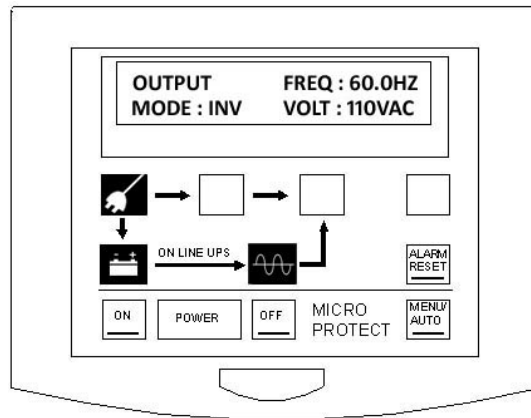

Figure 19 : LCD and Indicators - 3
5. Press 「 8. On 」 button (see Figure 5) to turn ON the UPS. The indicators will light and LCD will show as Figure 19.
6. Press 「 8. On 」 button (see Figure 5) to turn ON the UPS. The indicators will light and LCD will show as Figure 19.